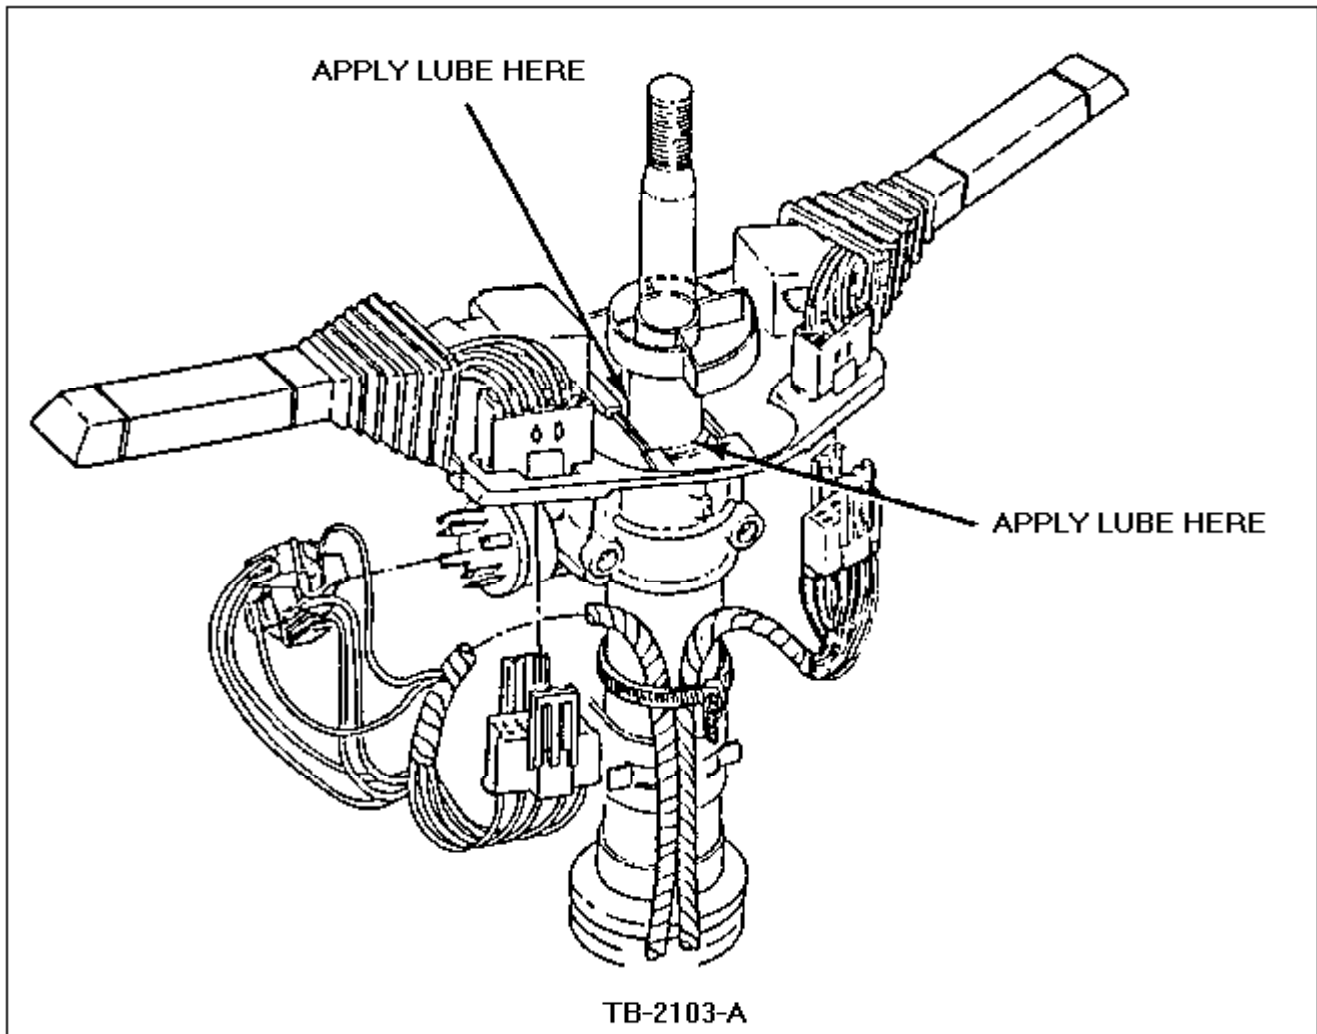

Figure 1 - Article 91-6-9
2. Apply Ford Multi-Purpose Grease on the bottom flange of the turn signal return cam. Refer to Figure 1.